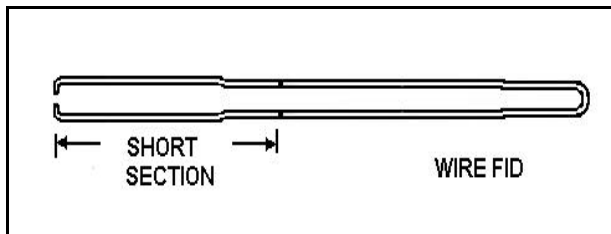

Figure 12-48. Metal Wire Fid
- **Metal wire fid.** For line over 1 inch diameter (see Figure 12-48, page 12-43).